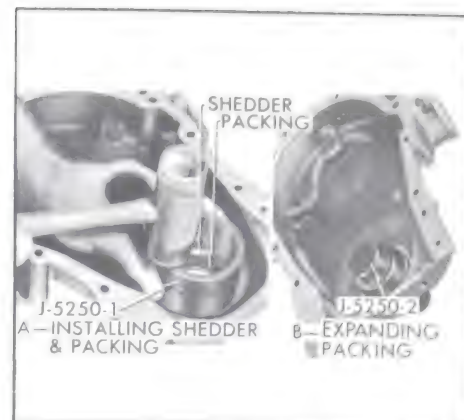

Figure 2-34—Installing Crankshaft Oil Seal
2. Work new packing into the shedder, then drive shedder into recess in timing chain cover, using Installer J-5250-1. See Figure 2-34, View A.
3. Push Packing Expander J-5250-2 through the seal to expand the packing into place and size the opening for the crankshaft. See Figure 2-34, View B. Apply a light coat of vaseline to the packing.